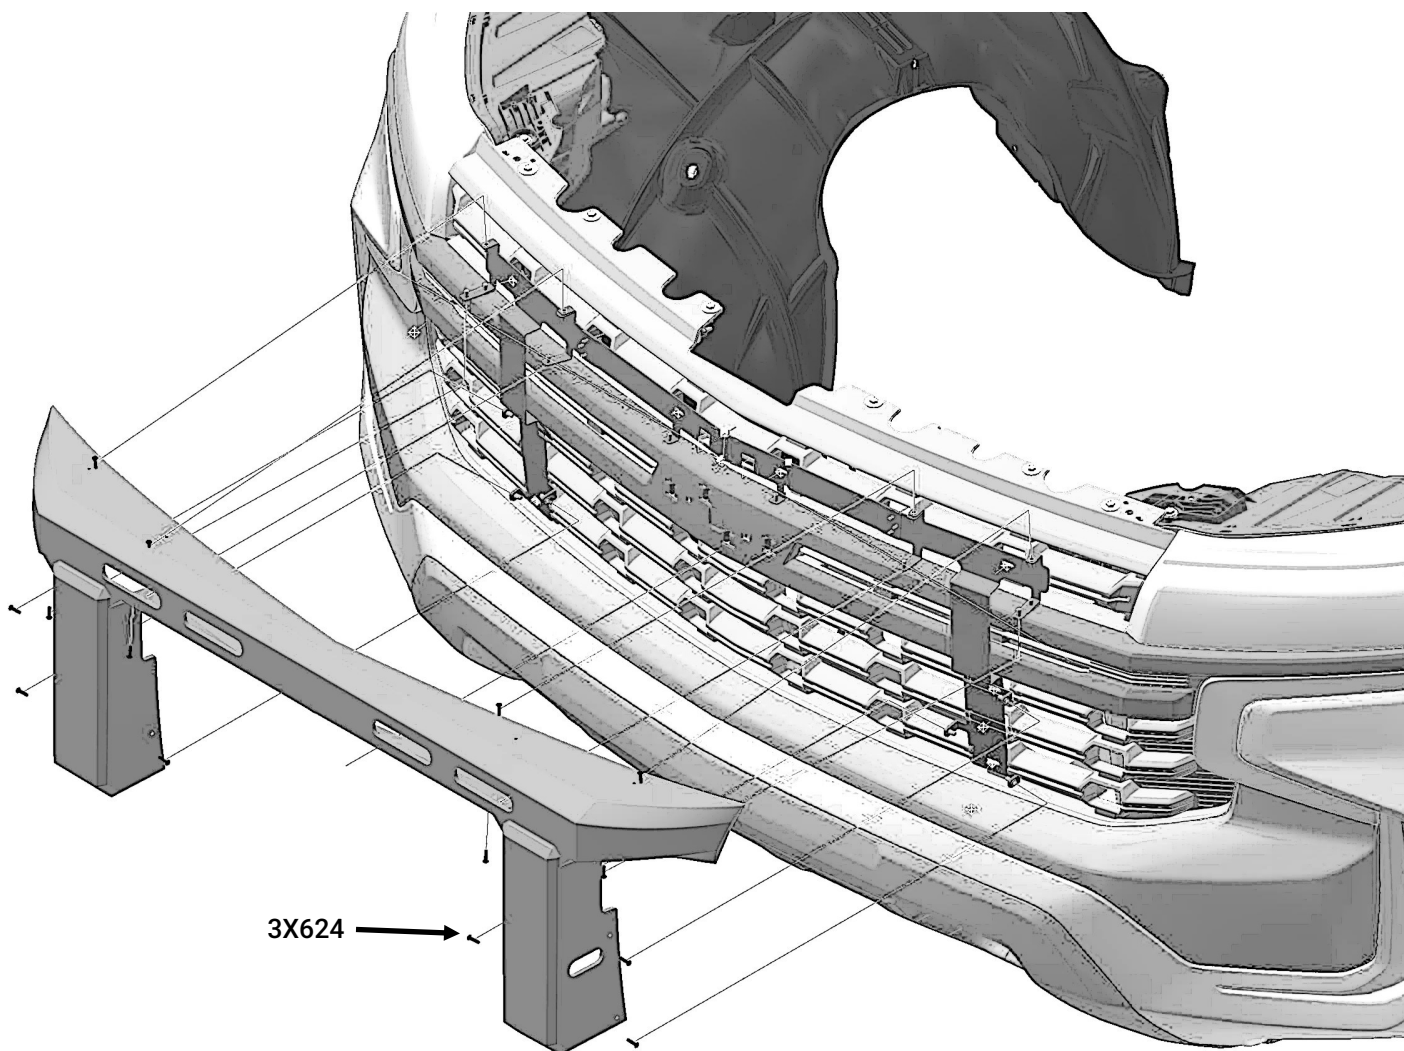

Figure 5
- E. Install the (14) button head screws [3X624] using a 3/32" hex key. There are (8) locations around the outside of the Command Grille® and (2) on the inside (Fig. 5).